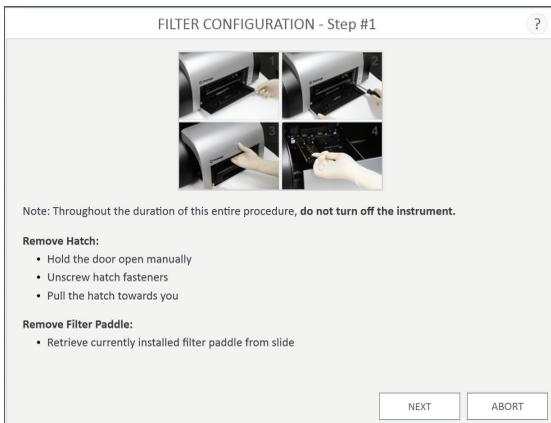

Figure 81. Filter Configuration procedure.
2. Manually open the plate door, and using the Phillips-Head Screwdriver, loosen the two screws at the bottom sides of the door (Figure 81).
3. Next, pull the front access door toward you to remove the door (Figure 81).